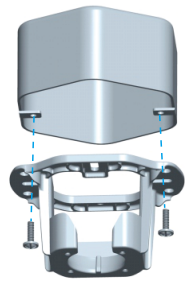

Fig 7.1
Install the mounting bracket to the ceiling box, as shown in Fig 7.1 below. Rotate the mounting bracket in different directions so that the bracket mounting holes match the screw holes of the ceiling box.
**Note:** This mounting bracket is a standard cable box. If the mounting bracket is installed at the outlet box, it should be installed on the outlet box with two screws matching the outlet box itself, as shown in Fig 7.1.